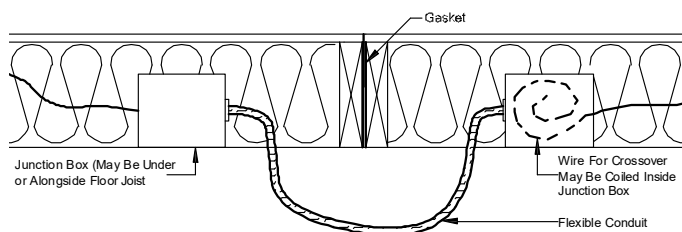

Figure 58. Under the rim joist electrical crossover connection with conduit
2. **Connect wires.** If wire is coiled inside one junction box, insert it into provided flexible conduit and pass it under the rim joists to the opposing box and make the connection as described above. If no coiled wire is provided, install provided ship-loose conduit with wire making connections in both boxes (**Figure 58**).